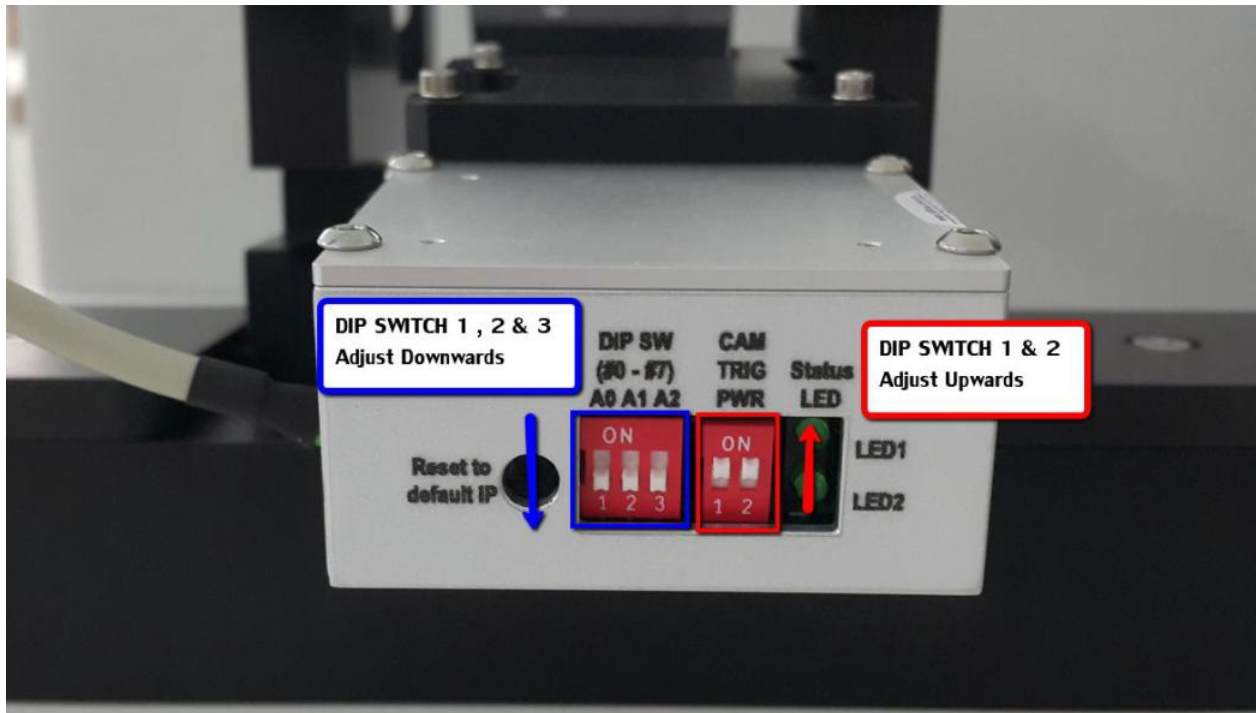

Figure 1 Front Projector IP DIP SWITCH CONFIGURATION
1. Adjust the DIP switch at Front Projector Module as below Figure 1.